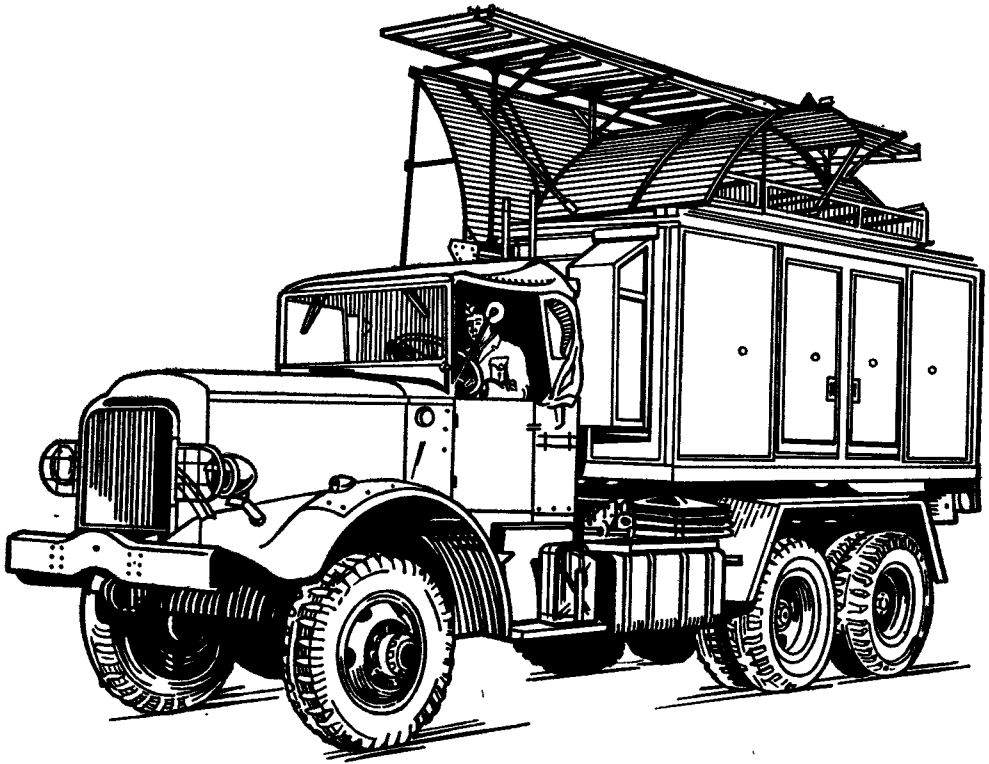

Fig. 12. R.V.462C in transit condition (left-hand side)
**21.** Fig. 12 and 13 show the vehicle in transit condition and fig. 14 shows it when operational. The installation involves :—